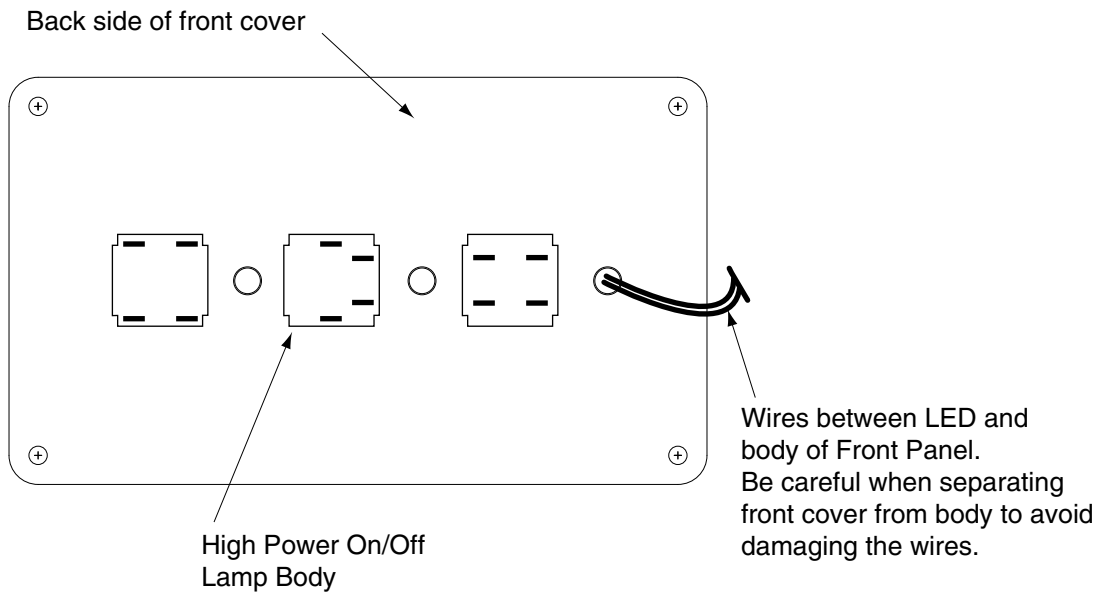

Figure 4-1. Lamp Body Contact Alignment
8. Replace the lamp body by pushing it straight into the lamp housing receptacle. Make sure the contacts on the lamp body are properly oriented. See Figure 4-1 on page 60.